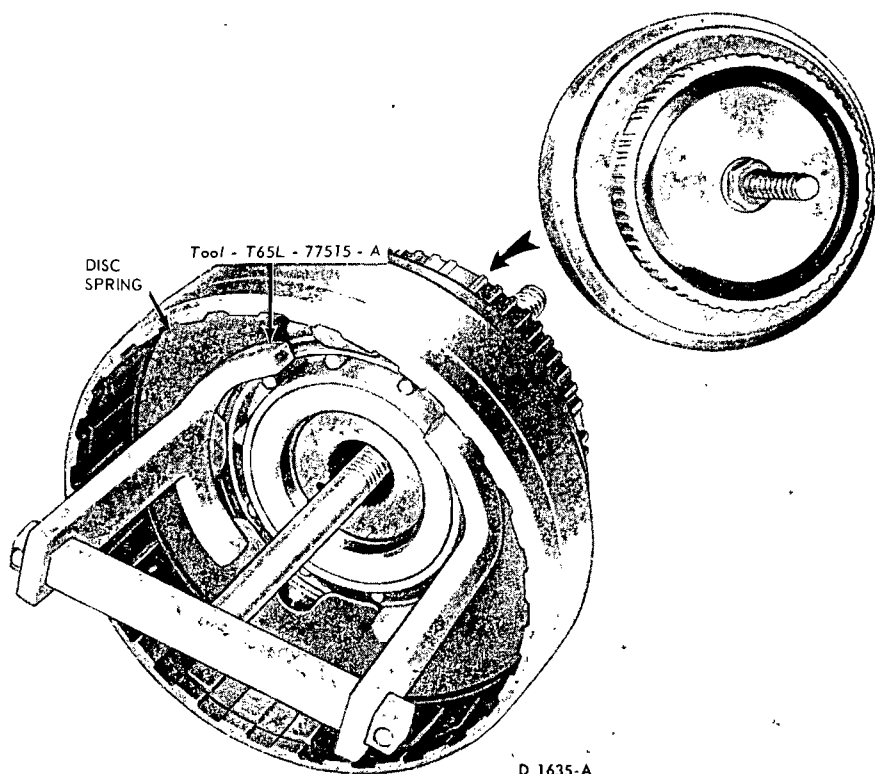

FIG. 89—Removing or Installing Disc Spring Snap Ring
3. Remove the disc spring retaining snap ring (Fig. 89).
7. Install the clutch piston into the clutch hub. Install the steel ring on the piston. Install the disc spring and retaining snap ring (Fig. 89).